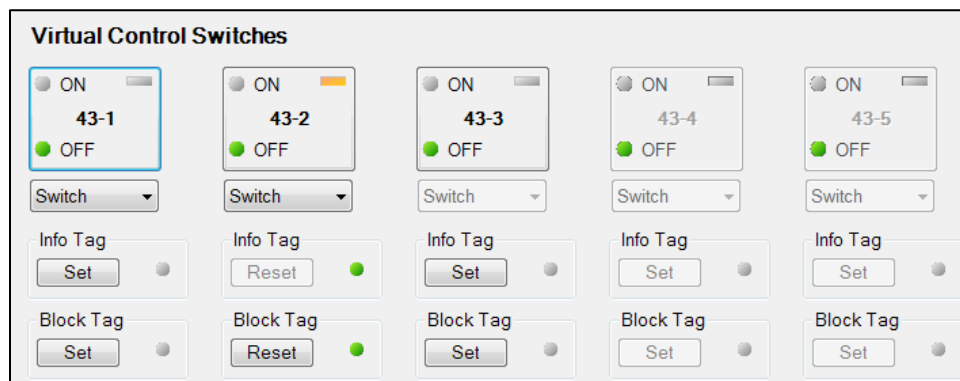

Figure 85-2. BESTCOMSPiPlus Virtual Switches Control Screen
- Step 4: Use the Metering Explorer of BESTCOMSPiPlus to open the Control, Virtual Switches tree branch (Figure 85-2). Using select-before-operate, perform the following steps to control a virtual switch.
- Step 3: Use the Metering Explorer of BESTCOMSP*lus* to open the Control, Virtual Switches tree branch (Figure 85-2). Using select-before-operate, perform the following steps to control a virtual switch.